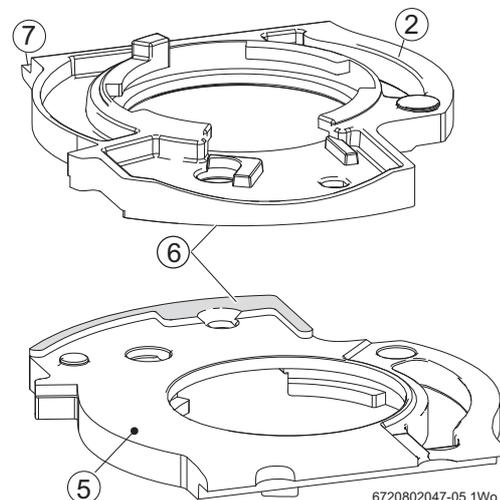

Fig. 106 Clamping plate detail
- Refer to figure 106 for detail of the clamping and mating surface [6]